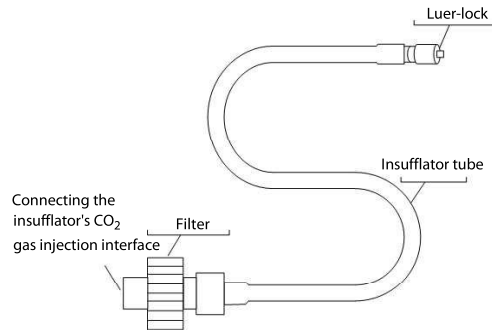

Figure 4-8 Installed insufflator pipe fitting (using filter)
2. Please install the filter between the insufflator tube and the insufflator's CO₂ gas injection interface. As shown in Figure 4-8.